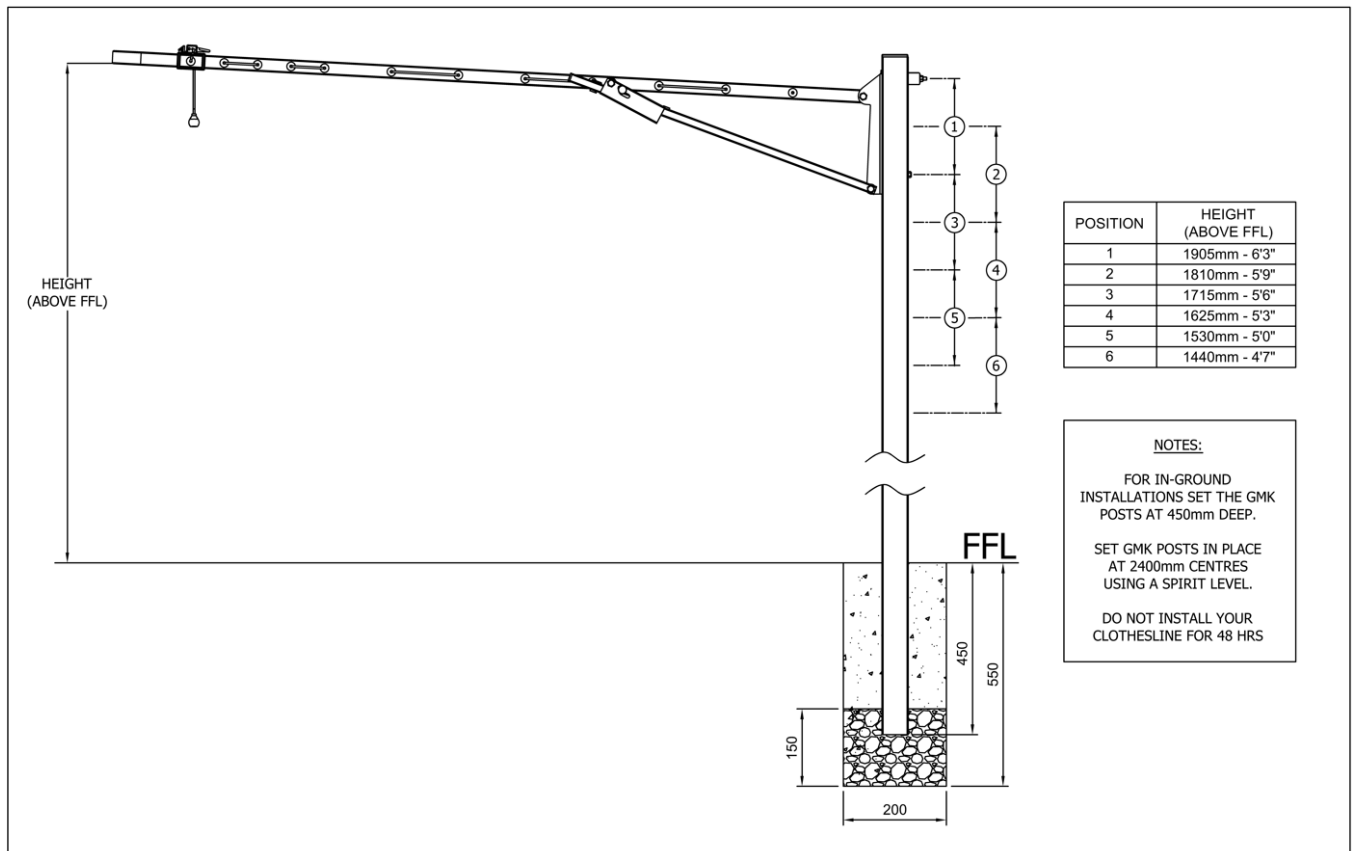

Fig. 8 GMK in-ground installation.
3. GMK has multiple height settings. Pick the one that best suits the end user, (50mm above head height is recommended). See Figs 8 and 9 for recommended installation heights.
- Install the GMK as per the below image (Fig 8) at 3,300mm centres.